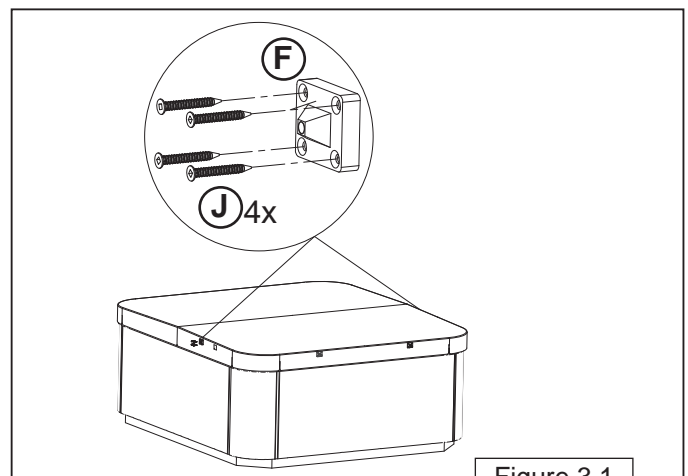

Figure 3.1
2. Line up the top Side Hinge (F) holes (Figure 3.1) with two of the marked holes on one side of the cover.
4. Using the 1/8"(3mm) drill bit and the bottom two holes of the Side Hinge, drill through the hidden aluminum plate followed by inserting two more of the same screws in the bottom holes (Figure 3.1).